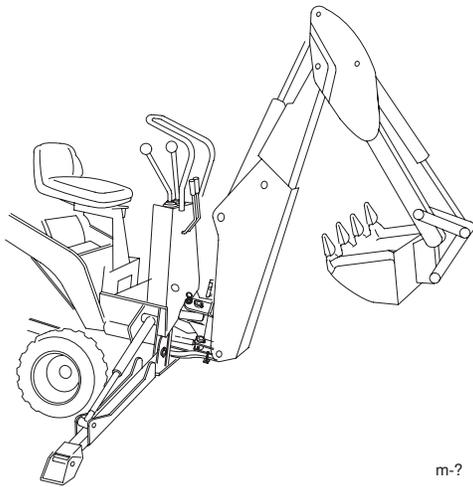

Figure 21
1. Fully raise the boom, retract the dipperstick, and curl the bucket rearward (Fig. 21). Ensure that you center the boom locking pin holes as much as possible.